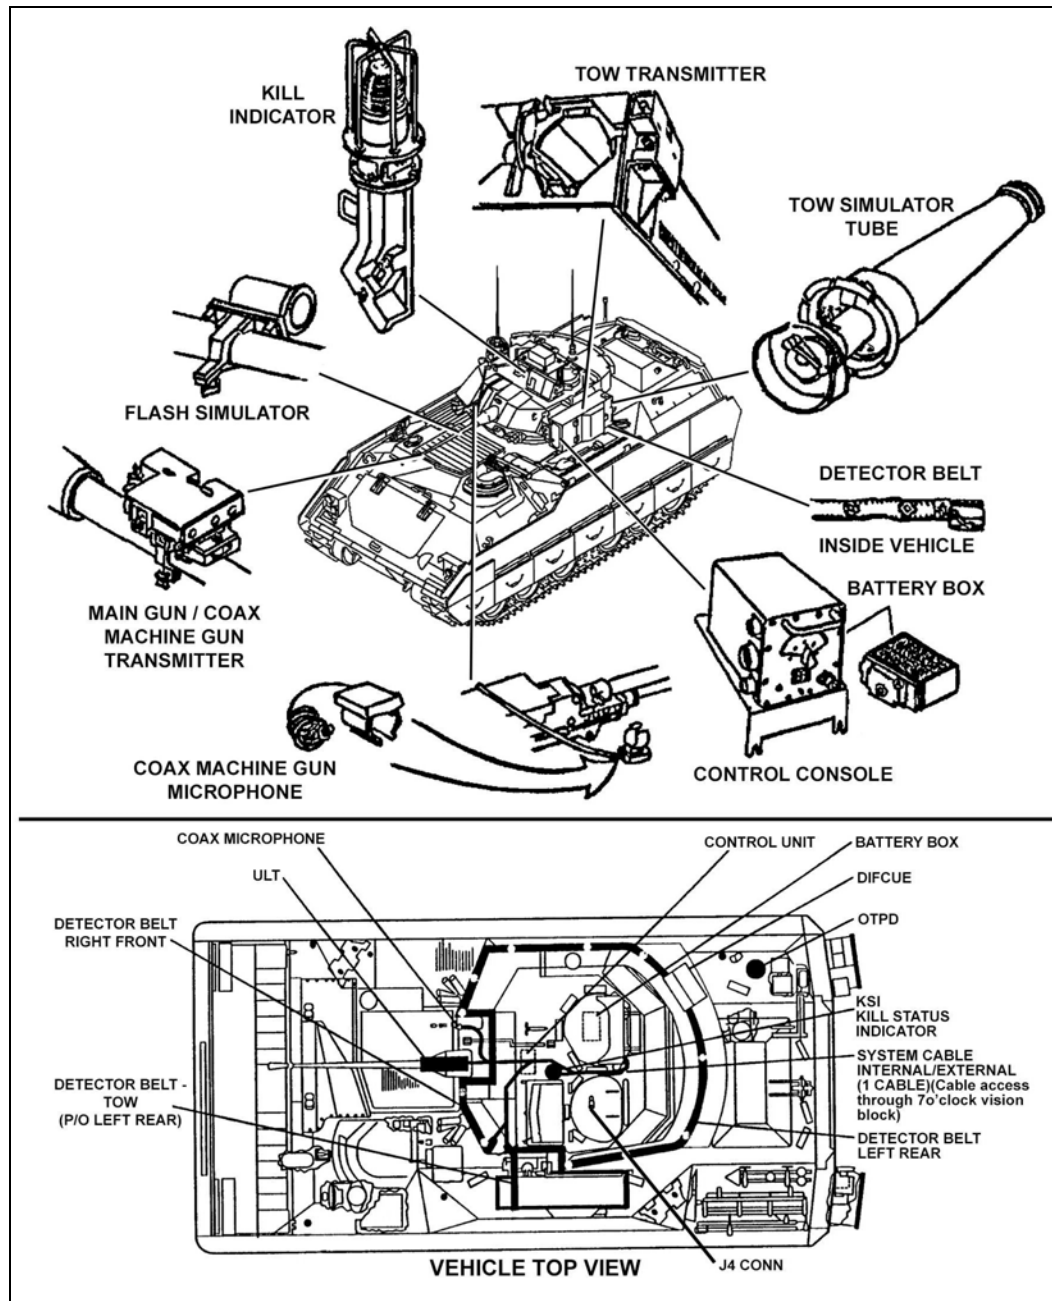

Figure 4-2. Location of MILES 2000.
b. **Multiple-Integrated Laser Engagement System.** MILES (Figure 4-2) is an integrated family of low-power, eye-safe, laser-based devices. It simulates the casualty-producing effects of direct-fire weapons using semiconductor laser beams. When fired, MILES sends an invisible laser beam from a transmitter attached to the 25-mm gun and to the TOW launcher. The laser beam transmits coded messages (based on the weapon and ammunition selected) to the detector belt sensors on other MILES-equipped vehicles. The MILES for the M2 or M3 fighting vehicle enables the crew to use the vehicle in realistic combat training exercises (force-on-force). MILES is unsuitable for training moving target engagements, because the gunner cannot apply lead or induce range to engage the target. Also, trainers cannot use MILES to train BOT and TOT, because the crew cannot see hit signatures or tracers (TM 9-1265-375-10).
(1) System components include—